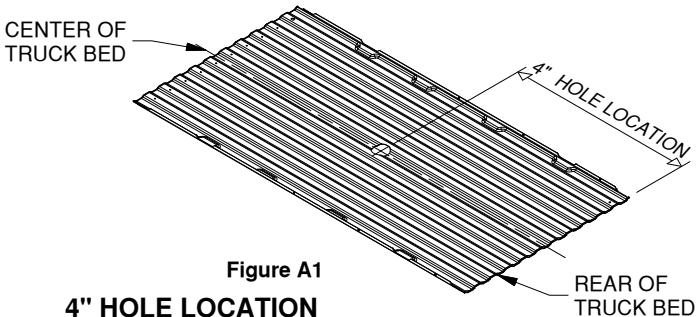

Figure A1
5. Mark the 4" hole location. Using a tape measure hooked over the rear edge of the bed (at tailgate end), measure the location for the hole as shown in Figure A1. Next, locate the center of the bed by measuring the distance between the wheel wells and dividing by two. The center of the hole will be at the intersection of the center of the bed and the first distance measured.